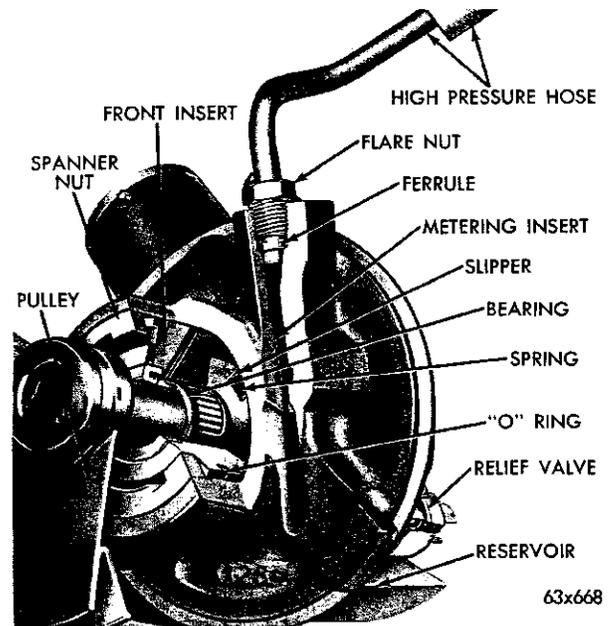

Fig. 57—Pump Cut-Away View
(8) Center the new ferrule with the tapered end up in the housing bore. The ferrule is pressed into place by reinstalling the high pressure hose and tightening the flare nut to 24 foot-pounds torque. Figure 57 is a cutaway view to show the ferrule properly seated in the housing.